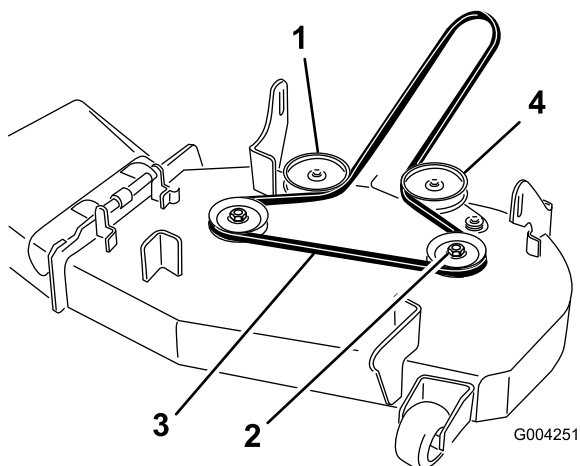
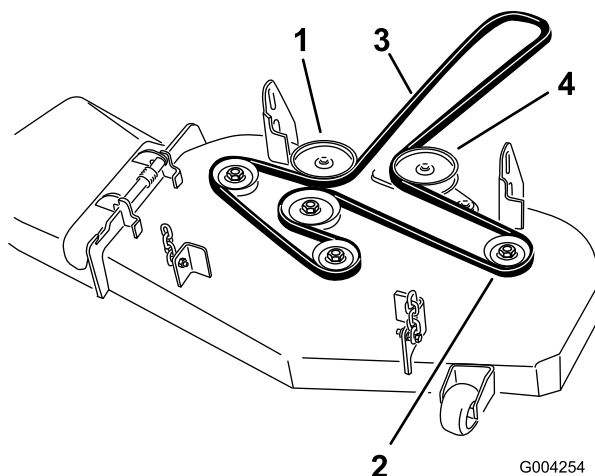

Figure 44
Figure 45
5. Pull on the idler arm to relieve the belt tension on the left spindle pulley (Figure 44 or Figure 45).
7. Install the new belt around the pulleys (Figure 44 or Figure 45).